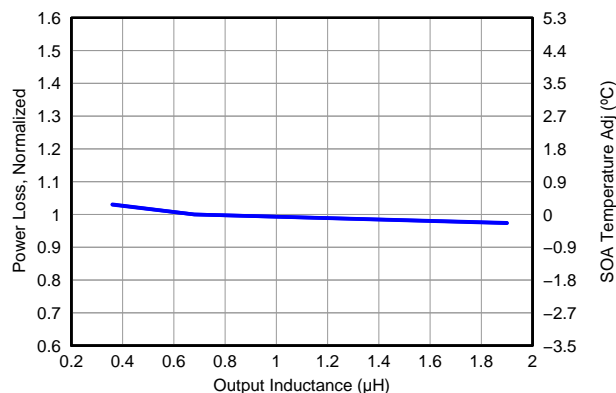

Figure 9. Normalized Power Loss vs. Output Inductance
- Normalized Power Loss for output inductor ≈ 1.05 (Figure 9)
- SOA adjustment for output inductor $\approx 0.45^\circ\text{C}$ (Figure 9)